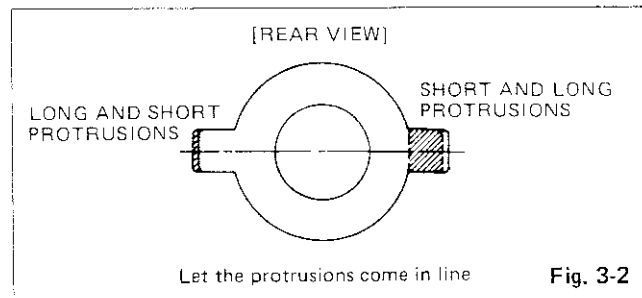

Fig. 3-2
2. Let the purity tabs come in line horizontally. A long tab should be in the same direction as the other short tab. (Fig. 3-2).